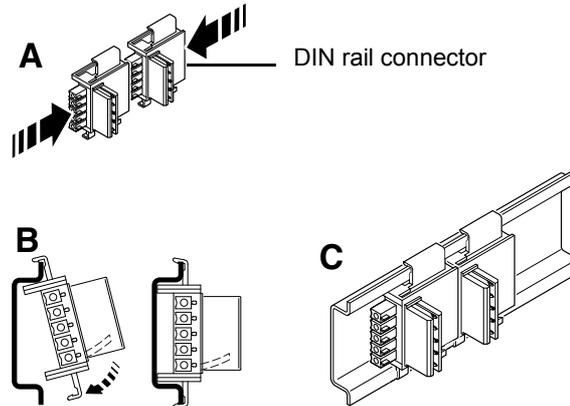

Figure 7-1 Mounting DIN rail connectors
- b) Connect the required number of DIN rail connectors for the connection station (see Figure 7-1, A).